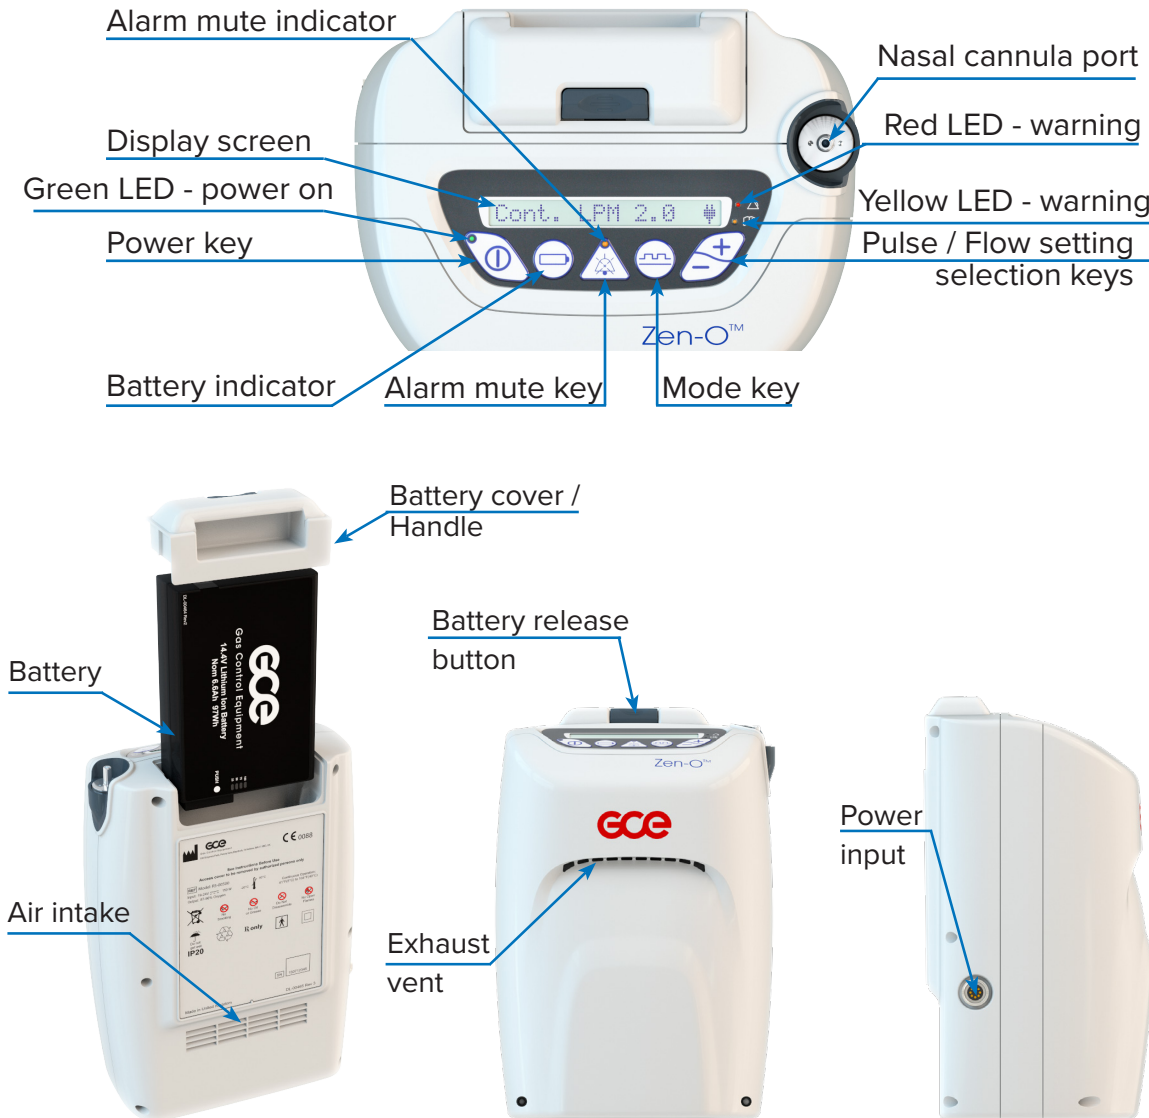

Fig. 1
35. The device can be isolated from power by disconnecting the power supply from the input connector, see fig. 1, position the device for easy access to the power supply input connector.